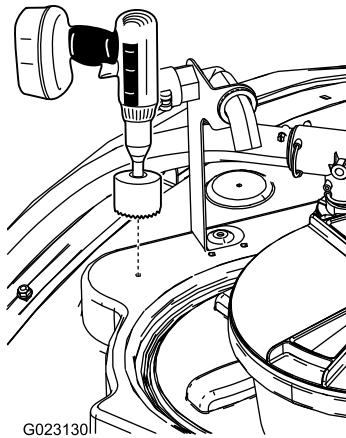

Figure 15
1. Locate the forward location on the top of the tank as shown in Figure 15.
2. Use a 9 cm (3-5/8 inch) hole saw to drill a hole at the drill mark (Figure 15).